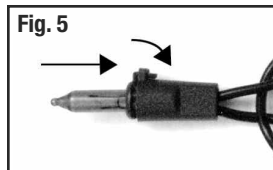

Fig. 5
proper position (Figure 5). Each branch must be shaped to a natural position by spreading out the left and right tips away from the center tip (See **Shaping Instructions** on page 4). Continue to lower branches on upper section(s) in the same manner making sure not to place undue pressure on the brackets.
- 3c. **TREES** do not require branch shaping. Branches should fall into place during assembly. If any branches remain upright, gently lower them into proper position (Figure 5).
4. **SHAPING:** Branches should fall into place during assembly. If any branches remain upright, gently lower them into proper position (Figure 5). See **IMPORTANT NOTE** below. Each branch must be shaped to a natural position by spreading out the tips. Please follow **Shaping Instructions** on next page for proper shaping technique. **TREES** do not require branch shaping. Branches should fall into place during assembly. If any branches remain upright, gently lower them into proper position.
4. Carefully insert new bulb into socket and push down base lock until it snaps into place (Figure 5).